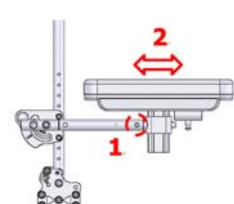

Figure 5-60
5.3.4.2.10 When adjusting the whole armrest pad assembly forwards or backwards, use the #4 Allen Key Wrench to loosen the screw used to fixing the armrest adjustable frame. The total range of adjustment is 5cm ,in increments of 2.5 cm. (Figure 5-60)